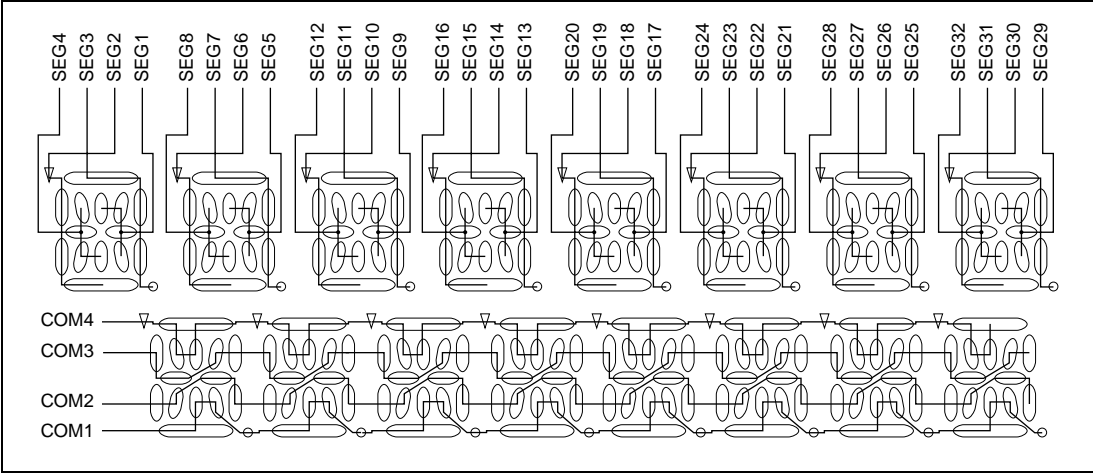

Figure 3 Connections of Segment Signals and Common Signals of the 16-Line 8-Character Segment LCD Used in this Task Example
4. In this task example, a 16-line 8-character segment LCD is used for display under static driving. Figure 3 is a diagram showing connections for segment signals and common signals of 16-line 8-character segment LCD used in this task example.